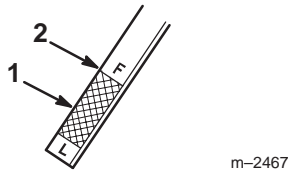

Figure 47
7. Pull the dipstick out and look at the metal end (Fig. 47).